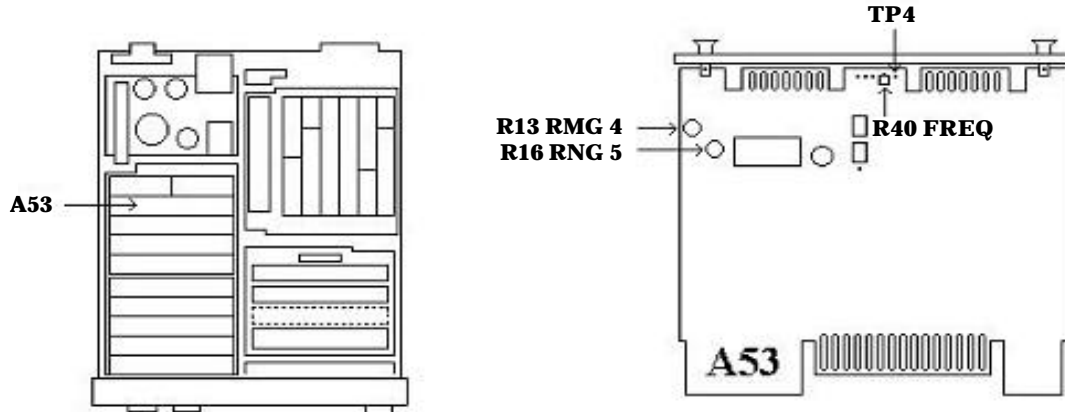

Figure 17. A53 board.
- (1) Reduce all outputs to minimum and disconnect equipment setup.
- (2) Connect range calibrator **POWER METER** connector to TI **SENSOR** input.
- (3) Set range calibrator to calibrate 1 mW range and normal polarity.
- (4) Press TI **RF POWER** key.
- (5) Adjust A53R40 FREQ (fig. 17) for a maximum indication on TI display.
- (6) Press TI keys as listed in (a) and (b) below:
- (7) Connect TI **MODULATION OUTPUT/AUDIO INPUT** to A53TP4 (fig. 17).
- (8) TI indication should be between 204 and 236 Hz.
- (9) Disconnect A53TP4 (fig. 17) from TI **MODULATION OUTPUT/AUDIO INPUT**.
- (10) Set range calibrator to standby.
- (11) Press TI keys as listed in (a) and (b) below:
- (12) Set range calibrator to calibrate.
- (13) Press TI keys as listed in (a) through (e) below:
- (20) Press TI keys as listed in (a) and (b) below:
- (21) Set range calibrator to calibrate.
- (22) Press TI keys as listed in (a) through (e) below:
- (23) Adjust A53R13 RNG 4 (fig. 17) for a TI indication of 10.00 mW.
- (24) Press TI keys as listed in (a) and (b) below:
- (25) Set range calibrator to 100 mW range.
- (26) Adjust A53R16 RNG 5 (fig. 17) for a TI indication of 100.0 mW.
- (27) Press TI keys as listed in (a) and (b) below:
- (28) Reduce all outputs to minimum and disconnect equipment setup, reinstall A53 board and repeat performance check.